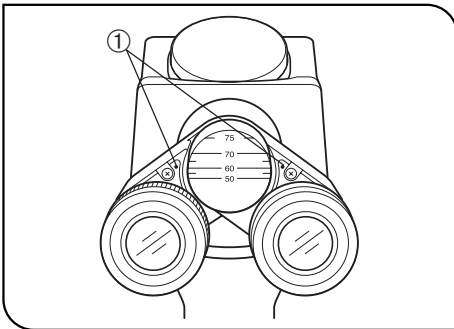

Fig. 11
Adjust so that the two index dots • ① are horizontal. (Fig. 11)
When your interpupillary distance is other than 50, 60, 70 and 75, adjust so that the line connecting the two index dots are in parallel with the horizontality lines on the pivot. (Fig. 11)